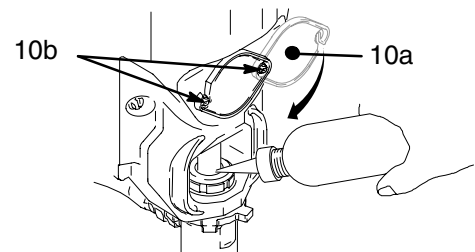

Fig. 14
7. Fig. 14. Fill packing nut with Throat Seal Liquid (TSL) until fluid flows onto top of seal.